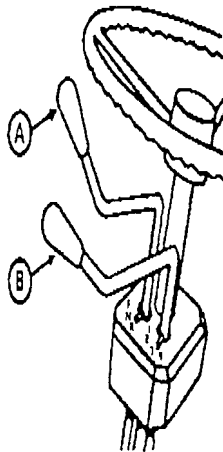

Figure 1-3
(13) IGNITION SWITCH (M): This switch is used to start the equipment and to check the accessories. It is a five-position switch which has the following functions; OFF position, ON position, START position, ACCESSORY position, and BULB CHECK position.
c. The controls, figure 1-3, are your transmission control lever.